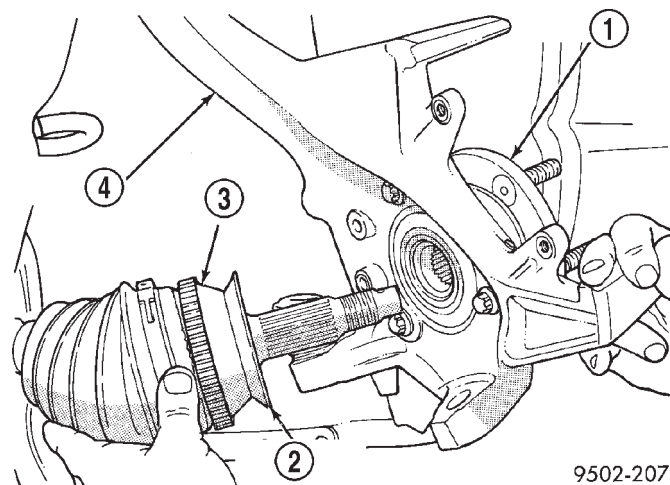

Fig. 22 Separating Steering Knuckle From Outer C/V Joint
(14) Separate the steering knuckle from the outer C/V joint. Separate steering knuckle from outer C/V joint, by supporting the driveshaft while pulling steering knuckle away from the outer C/V joint (Fig. 22).